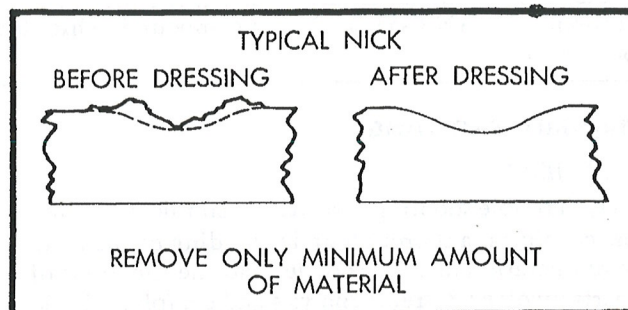
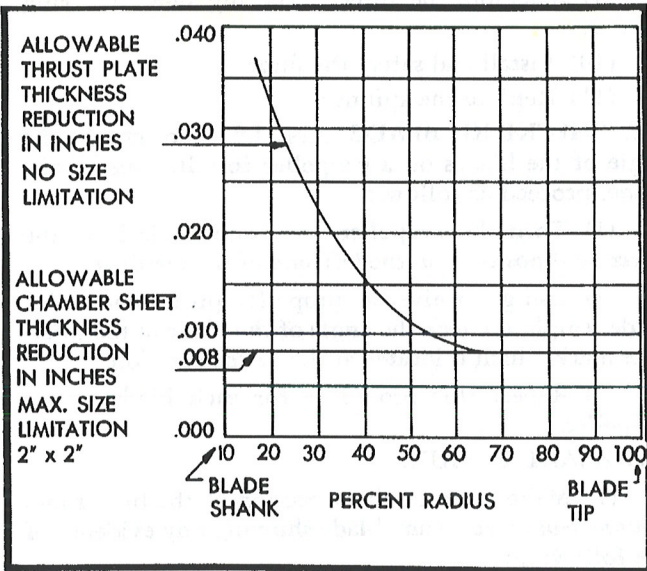

Figure 40—Blade Repair
Figure 41—Material Removal Chart
(3) When removing metal, a fine stone should be used and as little metal as possible should be removed. Sharp edges concentrate stresses and may eventually lead to cracks. After dressing with a stone, the surface should be smoothed with crocus cloth. Raised edges of nicks, scratches and cuts may be removed as shown in figure 40. The minimum allowable amount of metal which may be removed is shown in figures 41 and 43.